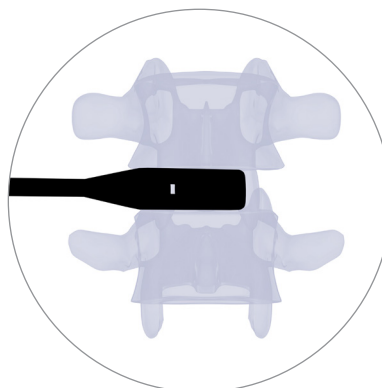

Figure 5d
- **A/P View:** Lateral coverage and rotational position (the more visible the paddle hole, the more rotation in the axial plane) (**Figure 5d**).